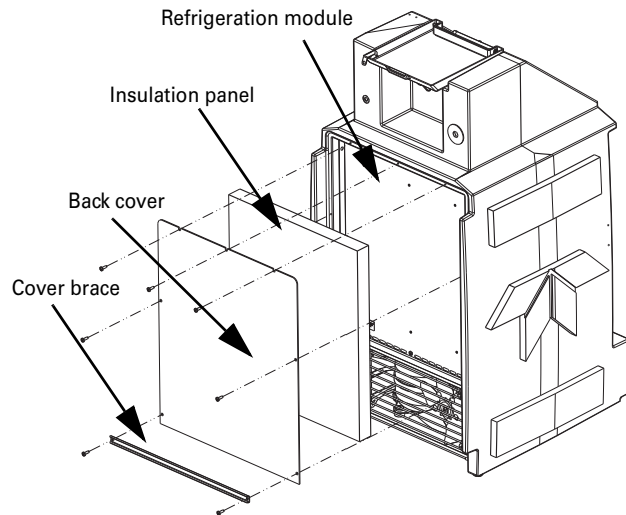

Figure 23: Open rear compartment
2. Remove the cover brace, back cover, and insulation panel (Figure 23).